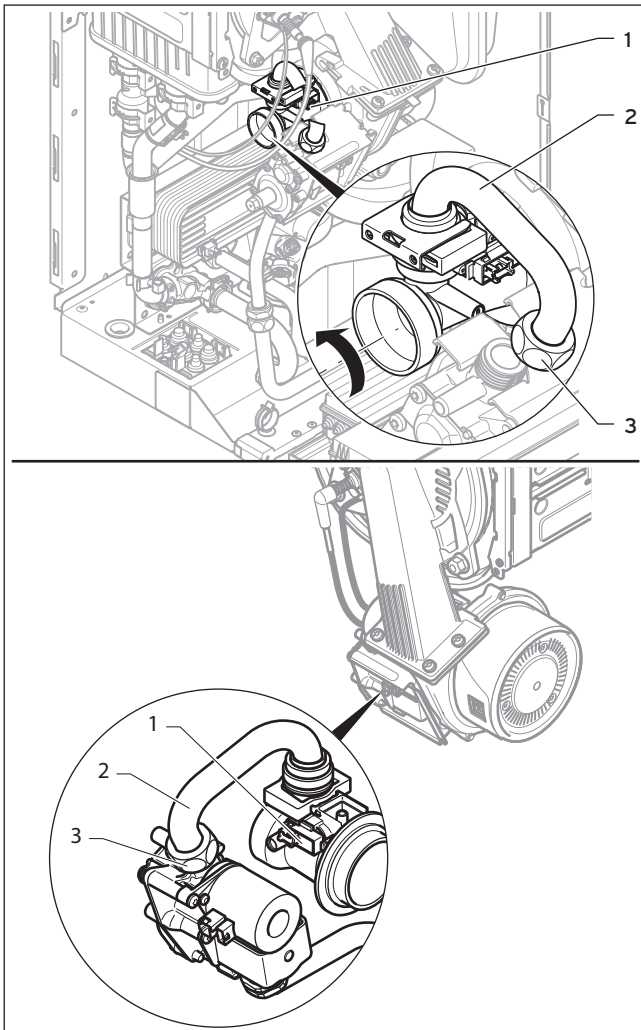

Fig. 2.1 Replacing the venturi and mass flow sensor
- Remove the connectors from the sensor of the venturi (1, fig. 2.1) by depressing the detent.
- Unscrew the union nut (3) of the gas connection pipe (2) on the gas fitting.